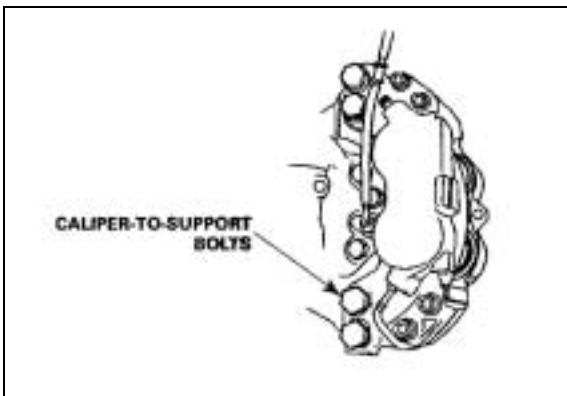

Figure 8
5. Remove 4 caliper-to-support assembly bolts. Do not disassemble the four bolts joining the two halves of the caliper. **Figure 8.**